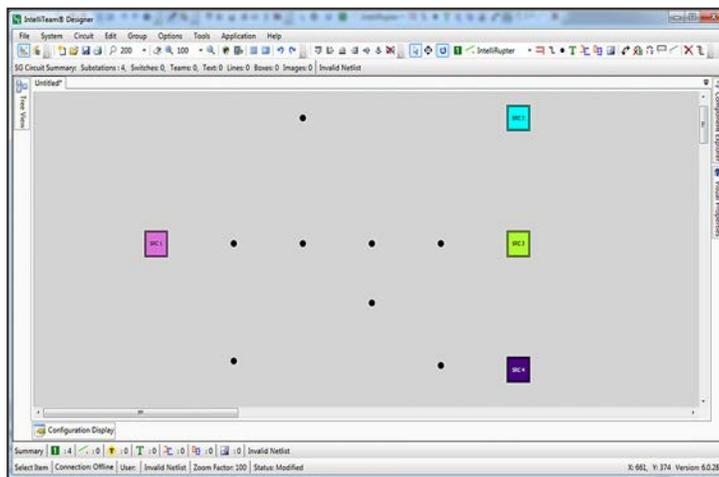

Figure 41. Aligned points make the wire connection process easier.
**STEP 6.** In Figure 39 on page 60, the Align Bottom tool was used. Continue to use the spacing and alignment tools until the drawing looks like Figure 41.